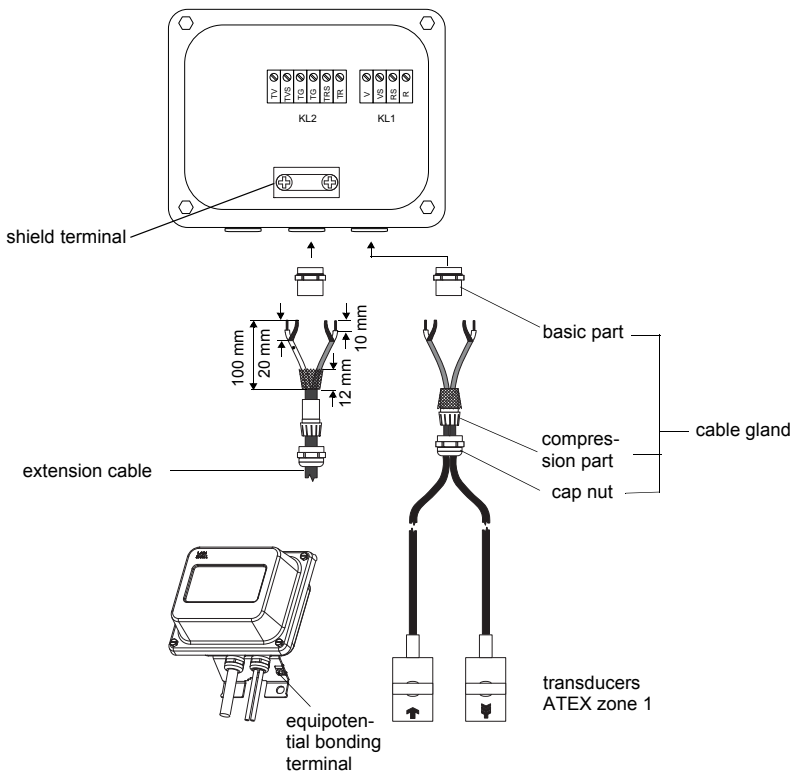

Fig. 6.7: Transducers (ATEX zone 1) - connection via junction box, connection of extension cable and transducer cable to the junction box
- Remove the blind plug from the junction box (see Fig. 6.7).